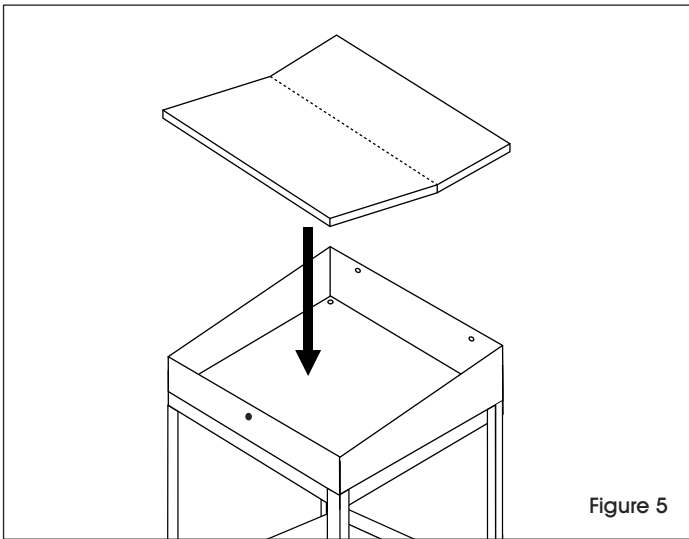

Figure 5
2. Lay top panel on top of the desk. (See Figure 5)